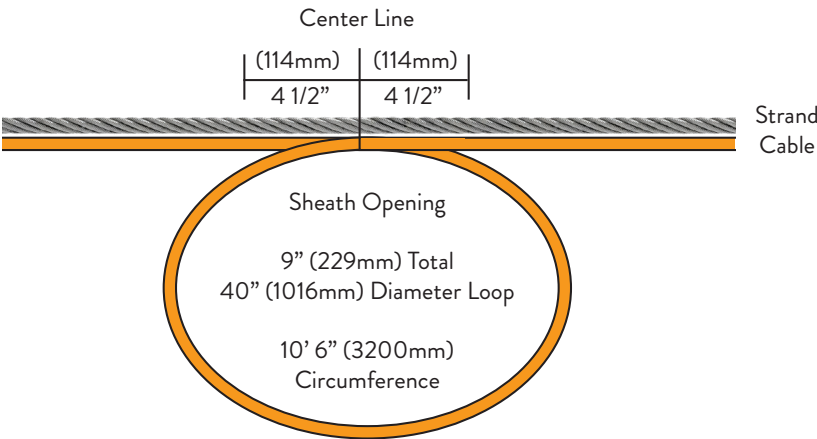
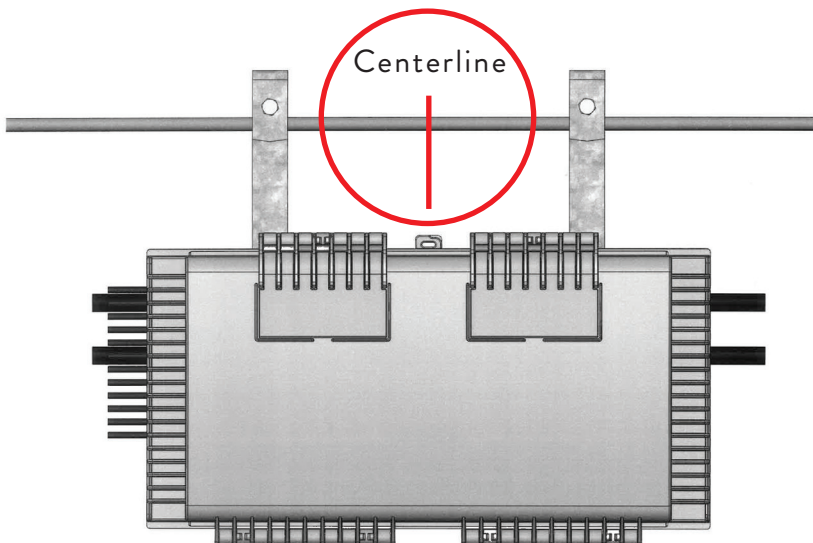

FIGURE 1
FIGURE 5
2. From this center point, mark the strand to help align enclosure placement which will be completed later [Figure 5]. Measure to the left and right of center 4 ½" (114mm) and mark the cable for sheath removal. Total sheath removal should be about 126" (3200mm). [Figure 1]
2. The center of the enclosure should line up with the mark made on the strand during cable prep and sheath removal [Figure 5].